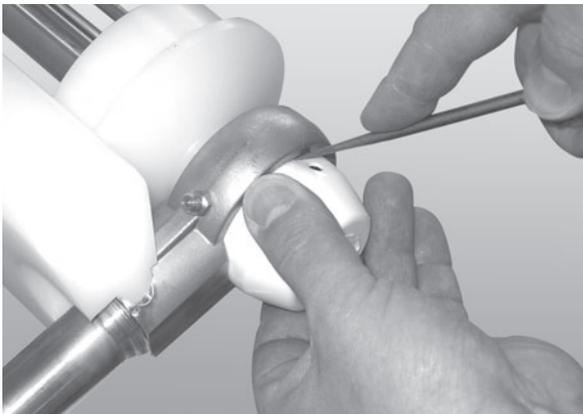

Figure 78
3. Remove the bearing cover (**Figure 78, item 1**).